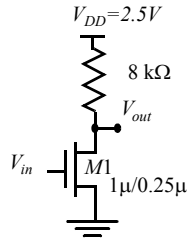

Figure 0.7 MOS circuit.
11. [M, SPICE, 3.3.2] Problem 11 uses the MOS circuit of Figure 0.7.
17. [M, None, 3.3.3] Compute the gate and diffusion capacitances for transistor *M1* of Figure 0.7. Assume that drain and source areas are rectangular, and are $1 \mu\text{m}$ wide and $0.5 \mu\text{m}$ long. Use the parameters of Example 3.5 to determine the capacitance values. Assume $m_j = 0.5$ and $m_{jsw} = 0.44$. Also compute the total charge stored at node *In*, for the following initial conditions:
- For the circuit of Figure 0.7, calculate nominal, minimum, and maximum currents in the NMOS device with $V_{in} = 0 \text{ V}$, 2.5 V and 5 V . Assume 3σ variations in V_{T0} of 25 mV , in k' of 15% , and in lithographic etching of $0.15 \mu\text{m}$.